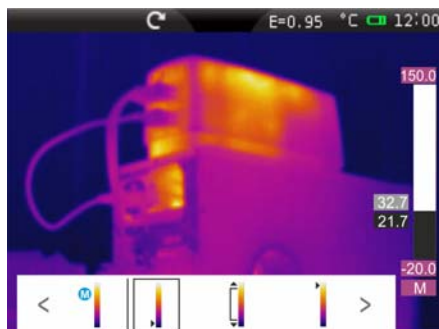

Fig. 57: Single adjusting of high and low level of temperature
4. Touch the icon “” for the setting of the adjustment mode. Touch the symbols “<” and “>” for the selection of Automatic (A), Manual (M) or Histogram (H) modes
5. Touch the icon “” or the icon “” for the single settings of adjustment respectively of high and low level of temperature. Touch the symbols “<” and “>” to carry out the adjustment of the temperature range associated with the colour palette until reaching the desired effect (see Fig. 57). Adjusting the levels is carried out with a fixed interval defined by the instrument and which cannot be modified, and the colour palette becomes white